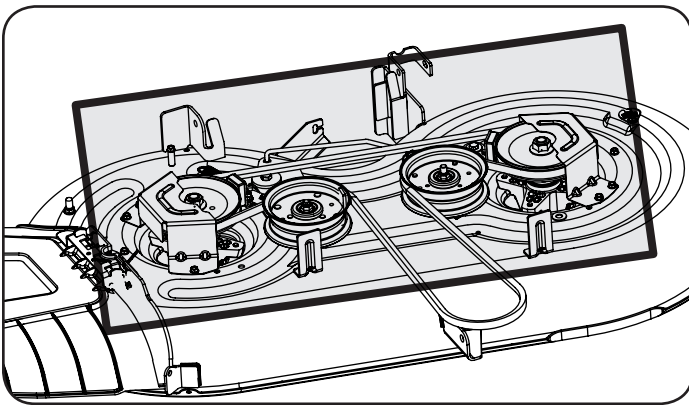

Figure 3
- Clean the top of the mower deck, under the spindle covers and belt area. See Figure 3.